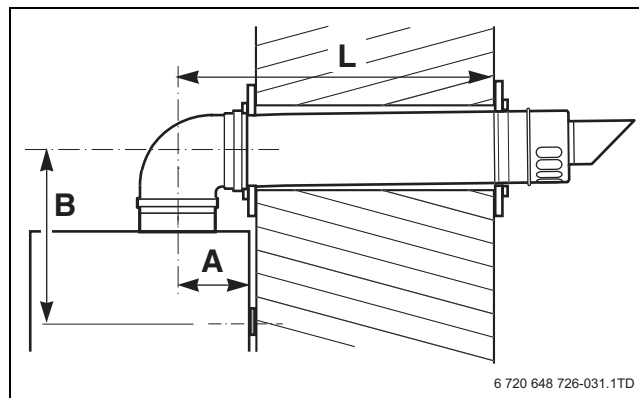

Fig. 28 Flue length - rear
► Measure the flue length L. Refer to figures 28 and 29.